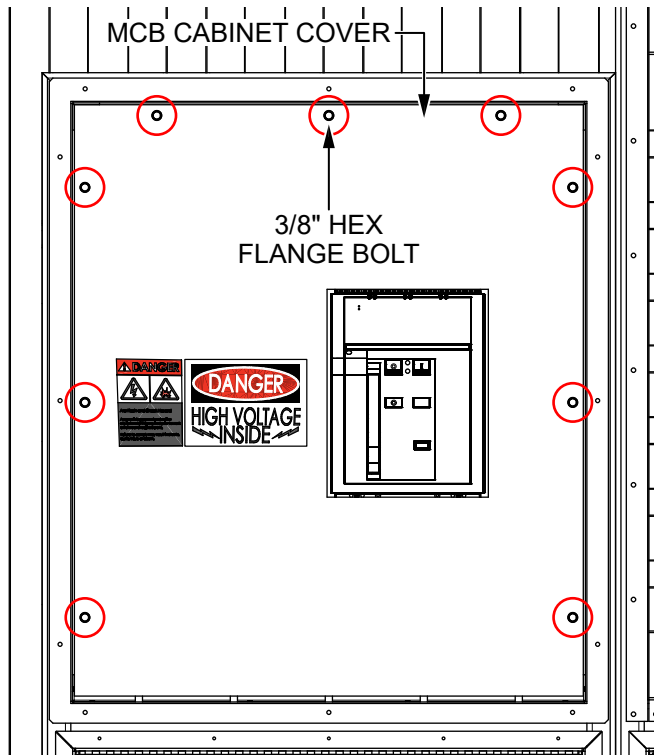

Figure 11. Remove Circuit Breaker Cabinet Cover
- Remove the **3/8-inch hex flange bolts** (Figure 11) securing the **main circuit breaker cabinet cover** to the container frame. Remove the cabinet cover and set it aside. Retain all of the hardware for later.